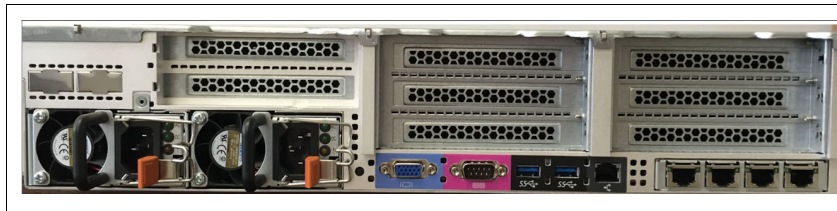

Figure 2-14 IBM FlashSystem AC3 control enclosure rear view
Figure 2-14 shows the IBM FlashSystem V9000 AC3 control enclosure rear view.
**Note:** Several interface options are available for the AC2 and AC3 control enclosures, which are not shown in Figure 2-13 on page 56 and Figure 2-14 on page 56.